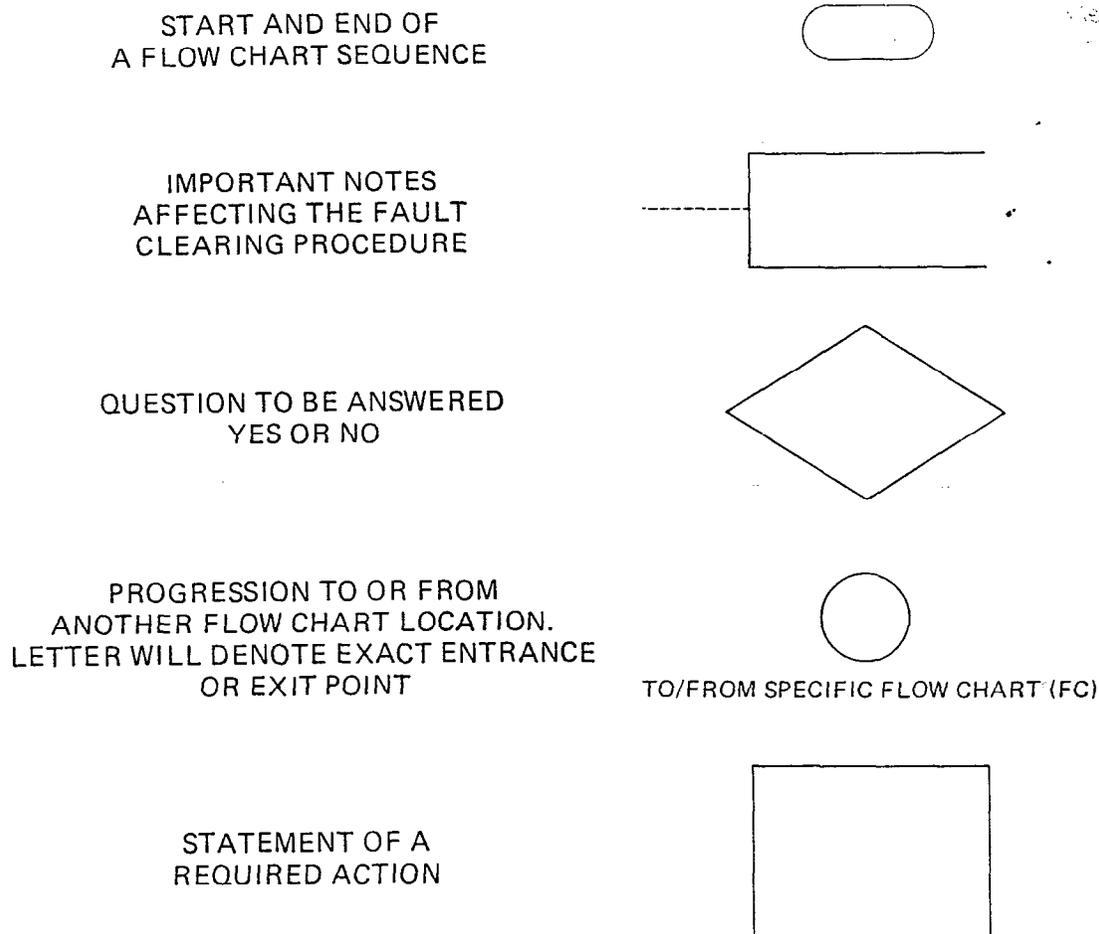

FIGURE 1 – FLOW CHART SYMBOLS
03.04 Five symbols are used in the flow charts. These symbols are identified in Figure 1.